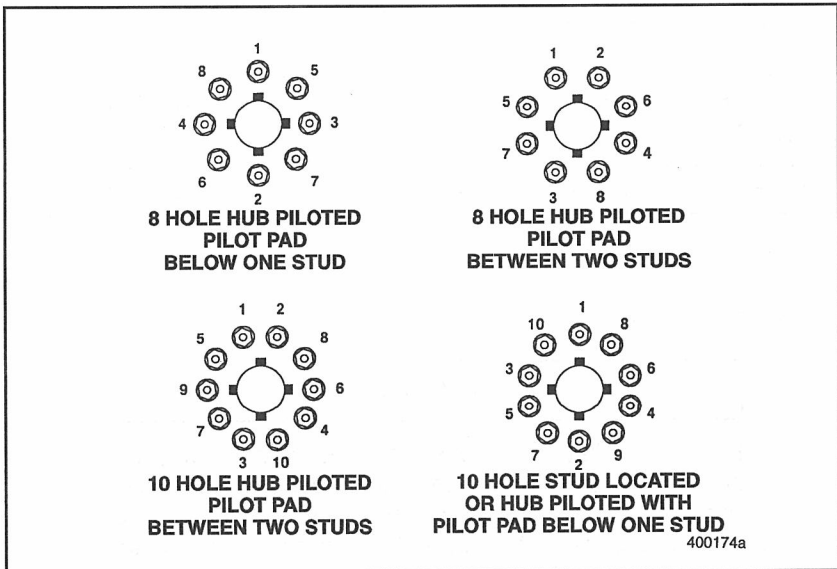

Figure 74 — Disc Wheels with Stud Located Ball Seat Tightening Sequence
3. Starting at the top stud position, partially torque the nuts in the sequence as shown in the illustration Figure 74.